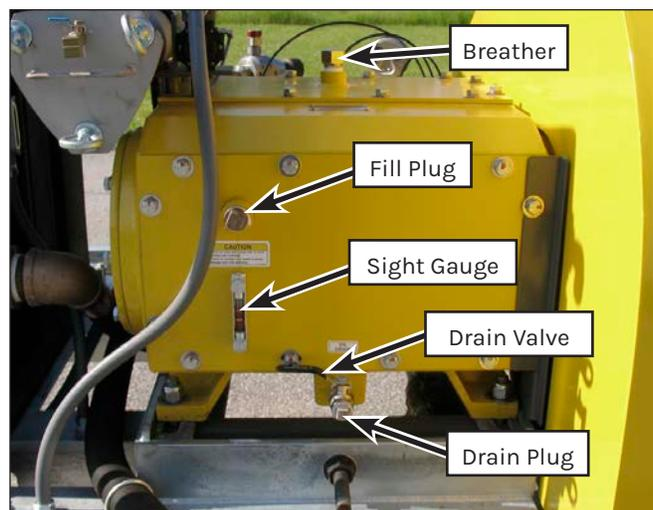

Figure 135: Oil Check and Change.
1. Locate the sight gauge (Figure 135) on the back of the power end case. With the pump off (for 5 to 8 hours), the oil should be at the Full level.